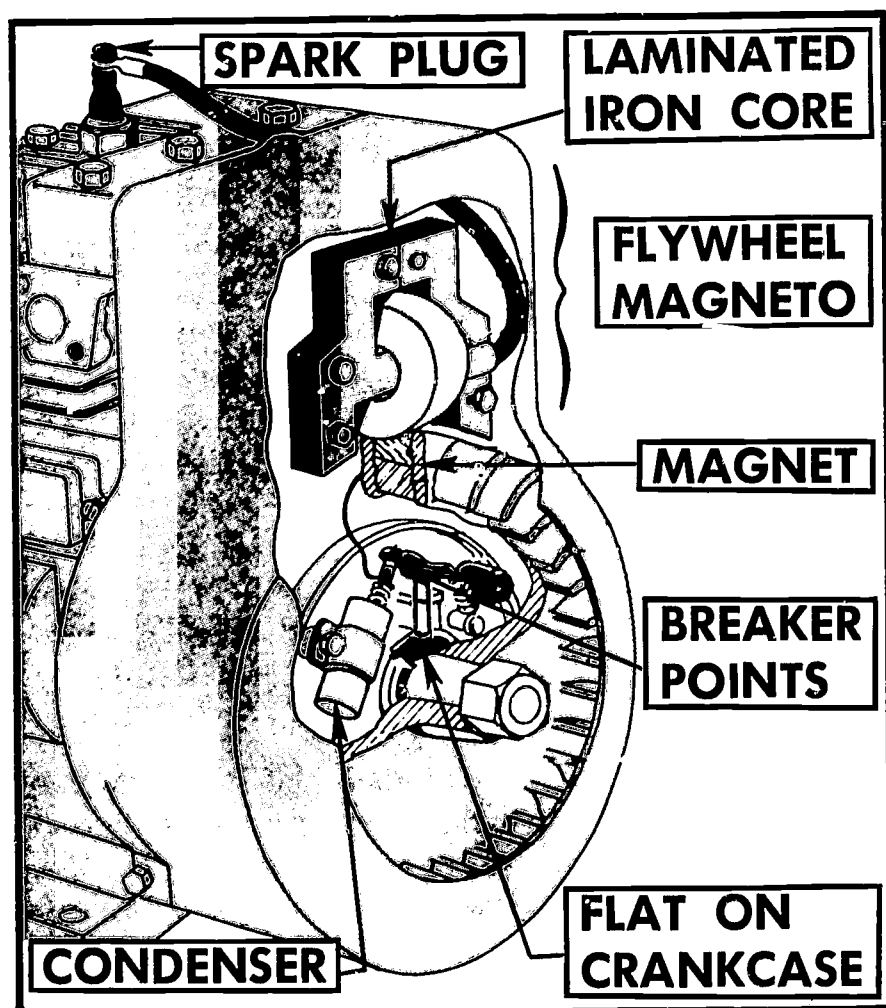
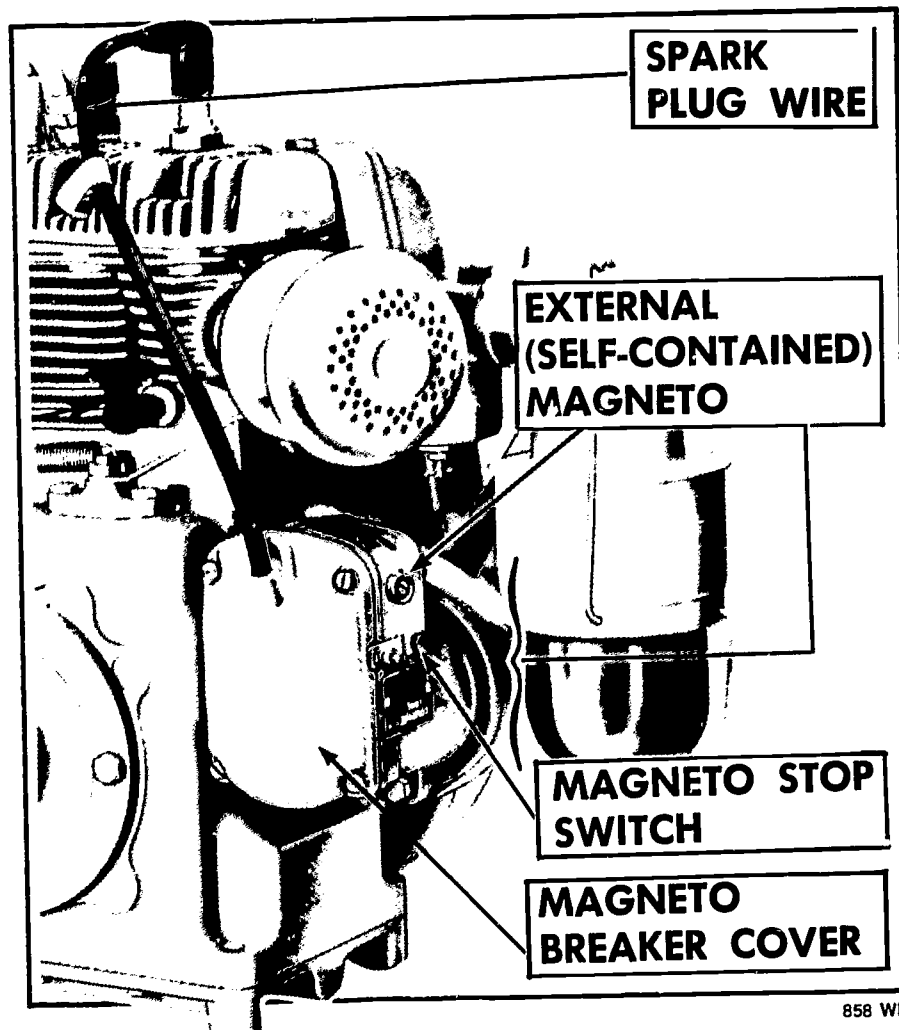

FIGURE 75. A cut-away view of a flywheel-type magneto.
FIGURE 76. A typical external-type (self-contained) magneto.
but is built in and around the flywheel (Figure 75); and (2) an **external type**, which is a self-contained unit mounted on the side of the engine (Figure 76).